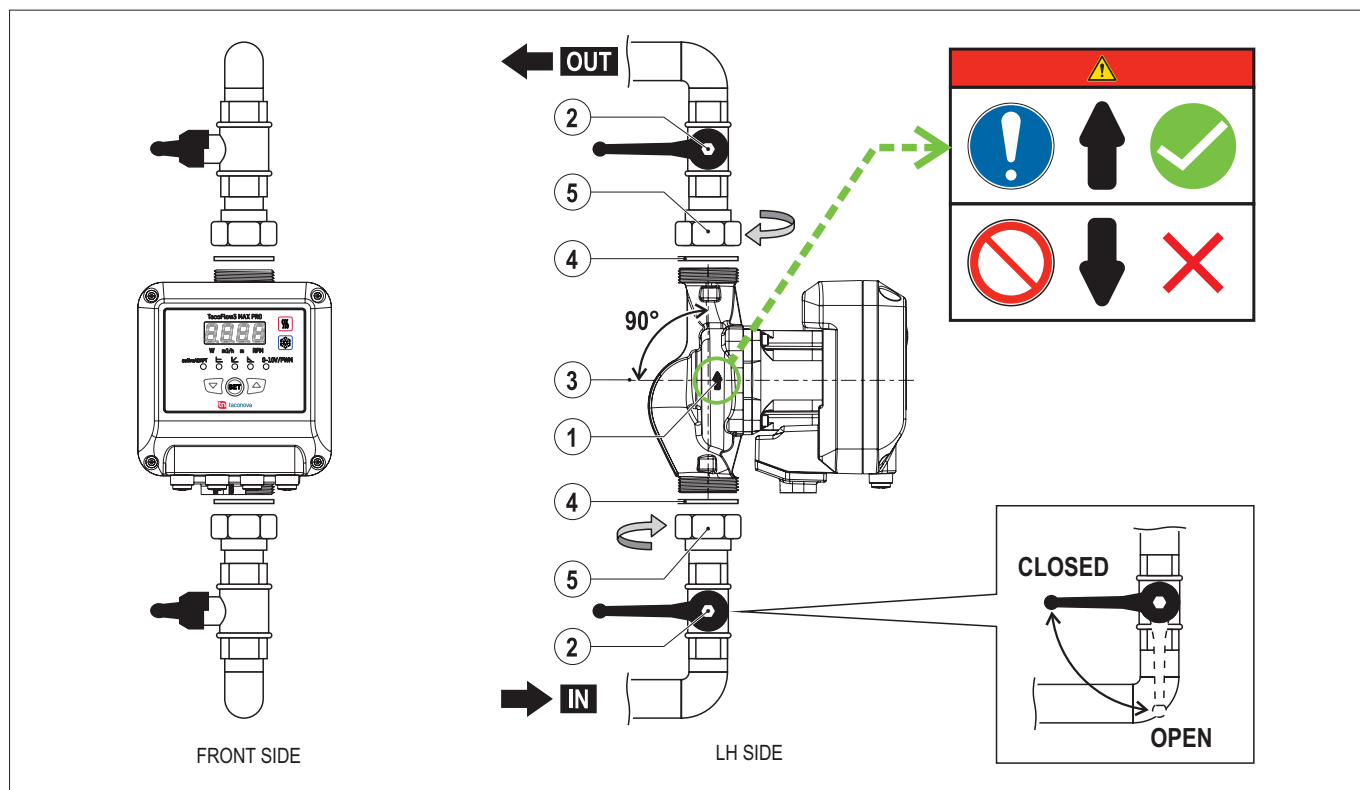

FIG. 9 (Mounting the pipes)
- 1) Check the direction of the water flow indicated by the arrow on the circulator (**FIG. 9 - Ref. 1**)
- 2) Close the shut-off valves (**FIG. 9 - Ref. 2**)
- 3) Place the circulator on the pipes without creating tension and with the motor shaft positioned horizontally (**FIG. 9 - Ref. 3**)
- 4) Insert the gaskets (**FIG. 9 - Ref. 4**)
- 5) Tighten the pipe unions with adequate tools (**FIG. 9 - Ref. 5**) onto the circulator